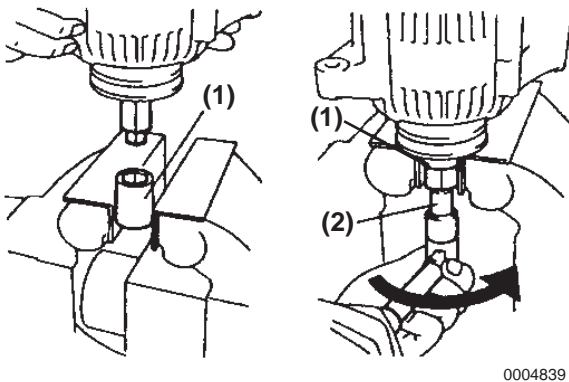

Figure 11-14
8. Install the special pulley nut tool (**Figure 11-14, (1)**) in a vise. Using special pulley nut tool (**Figure 11-14, (2)**) turn the tool in the direction shown by arrow to loosen the pulley nut.